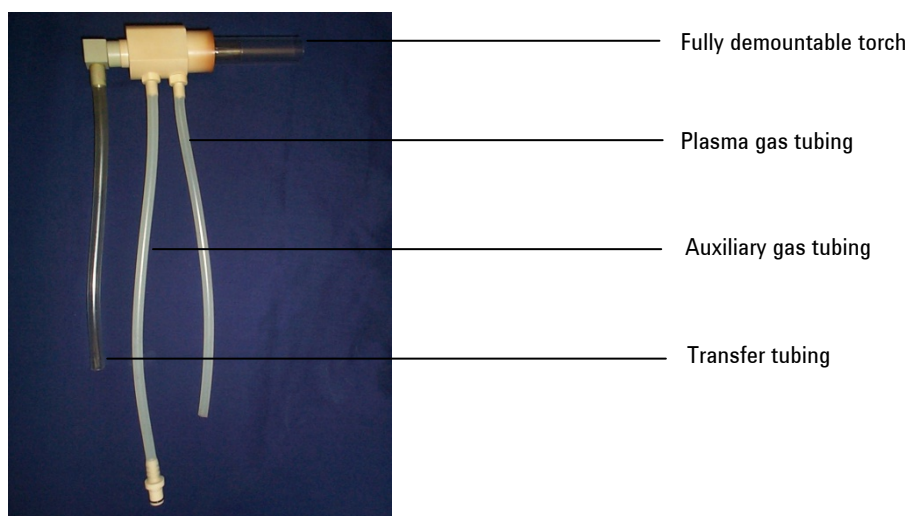

Figure 7. Torch with sample and gas tubing attached
- 13** With the alignment tool removed, re-insert the torch assembly into the clamp. As with the standard torch, the end of the intermediate tube should be about 3 mm to the left of the work coil. Attach the sample and gas tubing to the torch in the normal manner (see Figure 7).